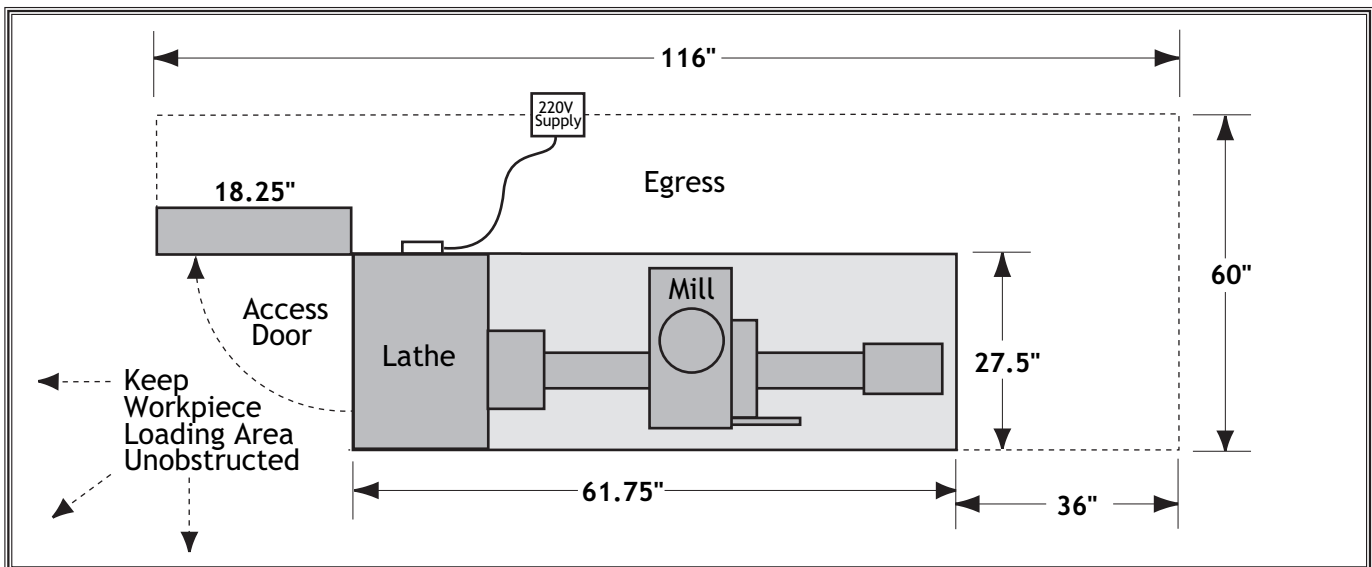

Figure 9. Minimum wall clearances.
- **Working Clearances:** Consider existing and anticipated needs, service panel access, length of rods to be loaded into the lathe/mill, and space for auxiliary stands, work tables or other machinery when establishing a location for your lathe/mill (see Figure 9 for minimum wall clearances).